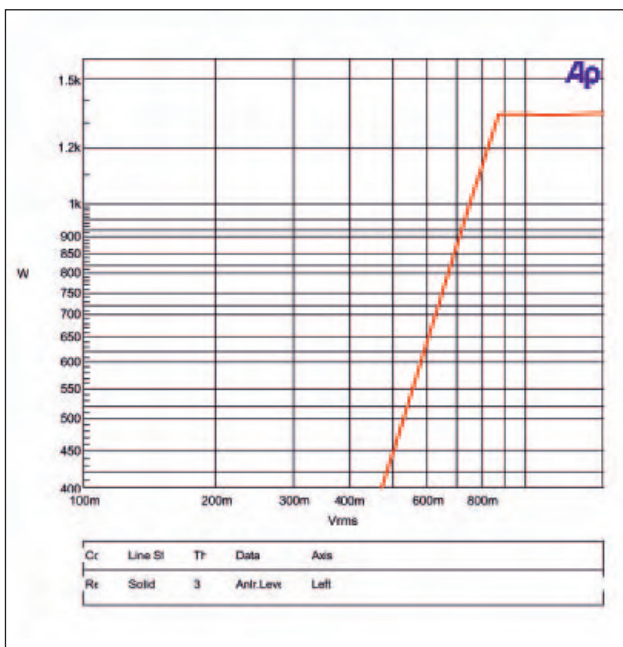

Figure 1: The 4-ohm, two-channel sweep meets the company's specification.
**Figure 1** shows the 4-ohm, two-channel sweep, and the amp peaked out at 1350 watts. I was pleased to see it meets the company's specification, but wasn't really surprised due to the power supply design. Further, both 8-ohm and 4-ohm power specs were easily met. Only one channel could be measured at 2 ohms because I ran out of wall juice (bench slang for AC current), but feel comfortable from the other tests that this would also meet spec.